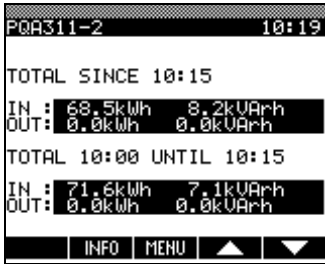

Figure 12: Typical Energy Display
- Text display, covering menus, system information, energy (Figure 12) and events (Figure 13).